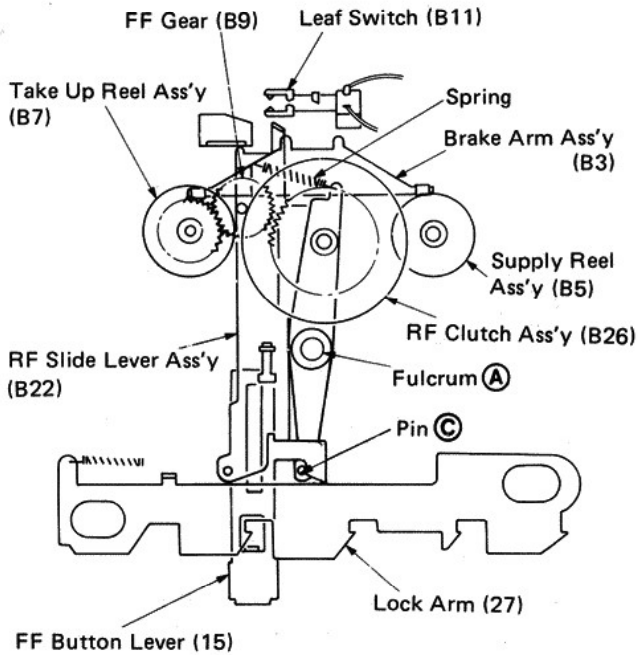

Fig. 19
- 1 Fig. 19 shows the positional relationship of the FF-related mechanism in the stop mode.
- 2 The RF clutch assembly (B26) is pulled by the spring toward the FF gear (B9). However, pin © located on the opposite side is hindered by the FF button lever (15). Therefore the RF clutch assembly (B26) does not operate.
- 3 On the other hand the brake arm assembly (B3) also keeps contact with the take-up reel assembly (B7) and the supply reel assembly (B5). Consequently it is in the braked state. (Fig. 19)